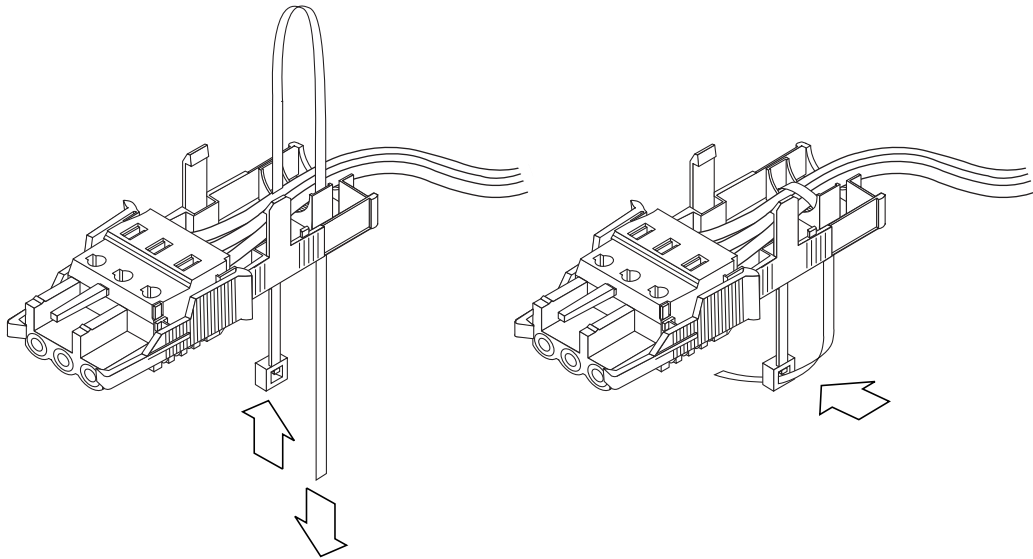

FIGURE 3-10 Securing the Wires to the Strain Relief Housing
- 4. Loop the wire tie over the wires and back out of the strain relief housing, then tighten the wire tie to secure the wires to the strain relief housing (FIGURE 3-10).**